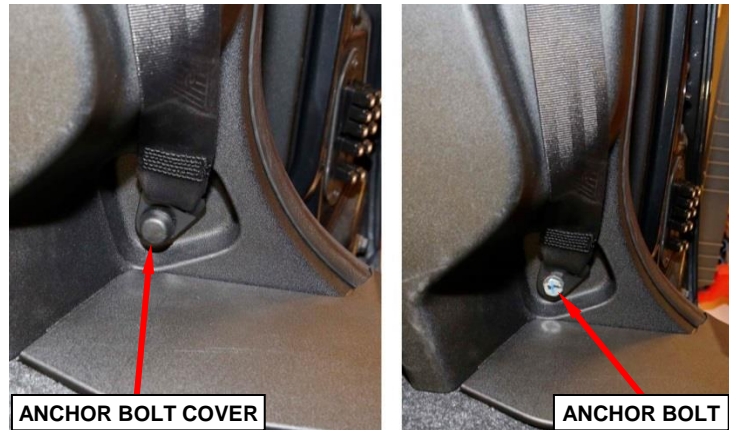

Figure 10 – C-Pillar Seat Belt Lower Anchor
6. Remove and save the cover from the left C-pillar lower seat belt anchor bolt (Figure 10).
7. Remove and save the left C-pillar lower seat belt anchor bolt (Figure 10).
42. Ensure the seatbelt webbing is properly aligned and then install the left C-pillar lower seat belt anchor bolt (Figure 10). Tighten the bolt to 30 ft. lbs. (40 N·m).
43. Install the cover on the left C-pillar lower seat belt anchor bolt (Figure 10).